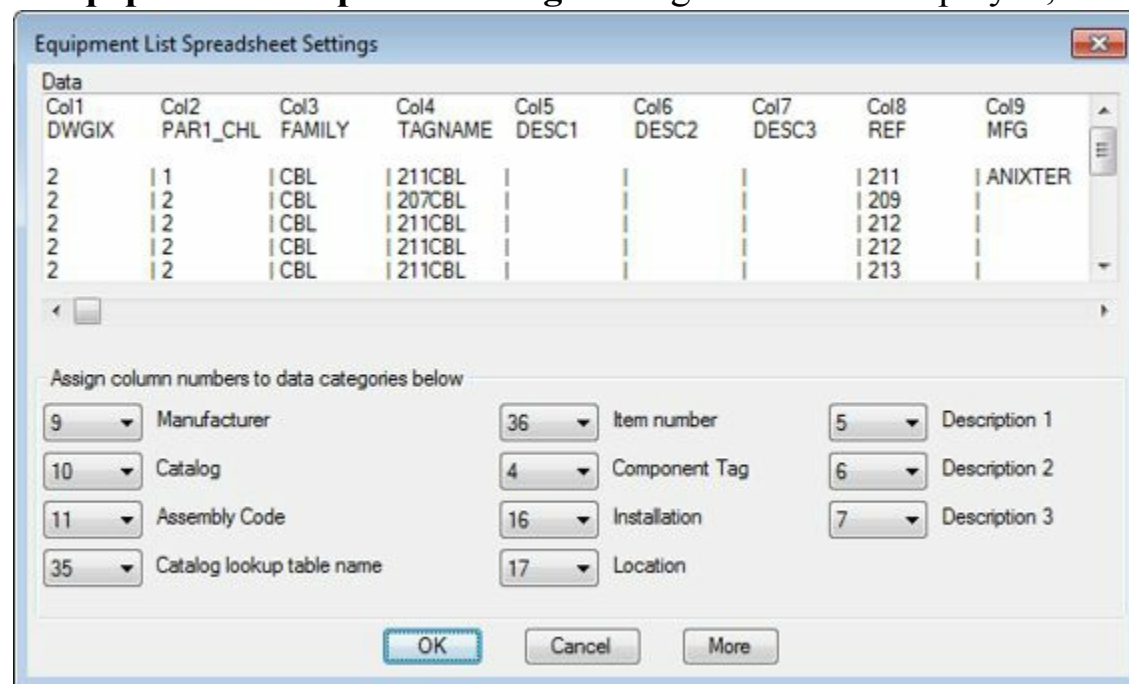

Figure-30. Equipment List Spreadsheet Settings dialog box
- After specifying the settings file, the **Spreadsheet/Table columns** button will become active in the **View/Edit Settings** area of the dialog box. Click on the **Spreadsheet/Table columns** button. The **Equipment List Spread Settings** dialog box will be displayed; refer to Figure-30.